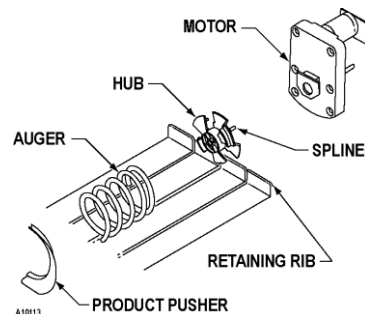

Figure 6f. Motor & Auger
1. Remove the motor cover. See Figure 6f.